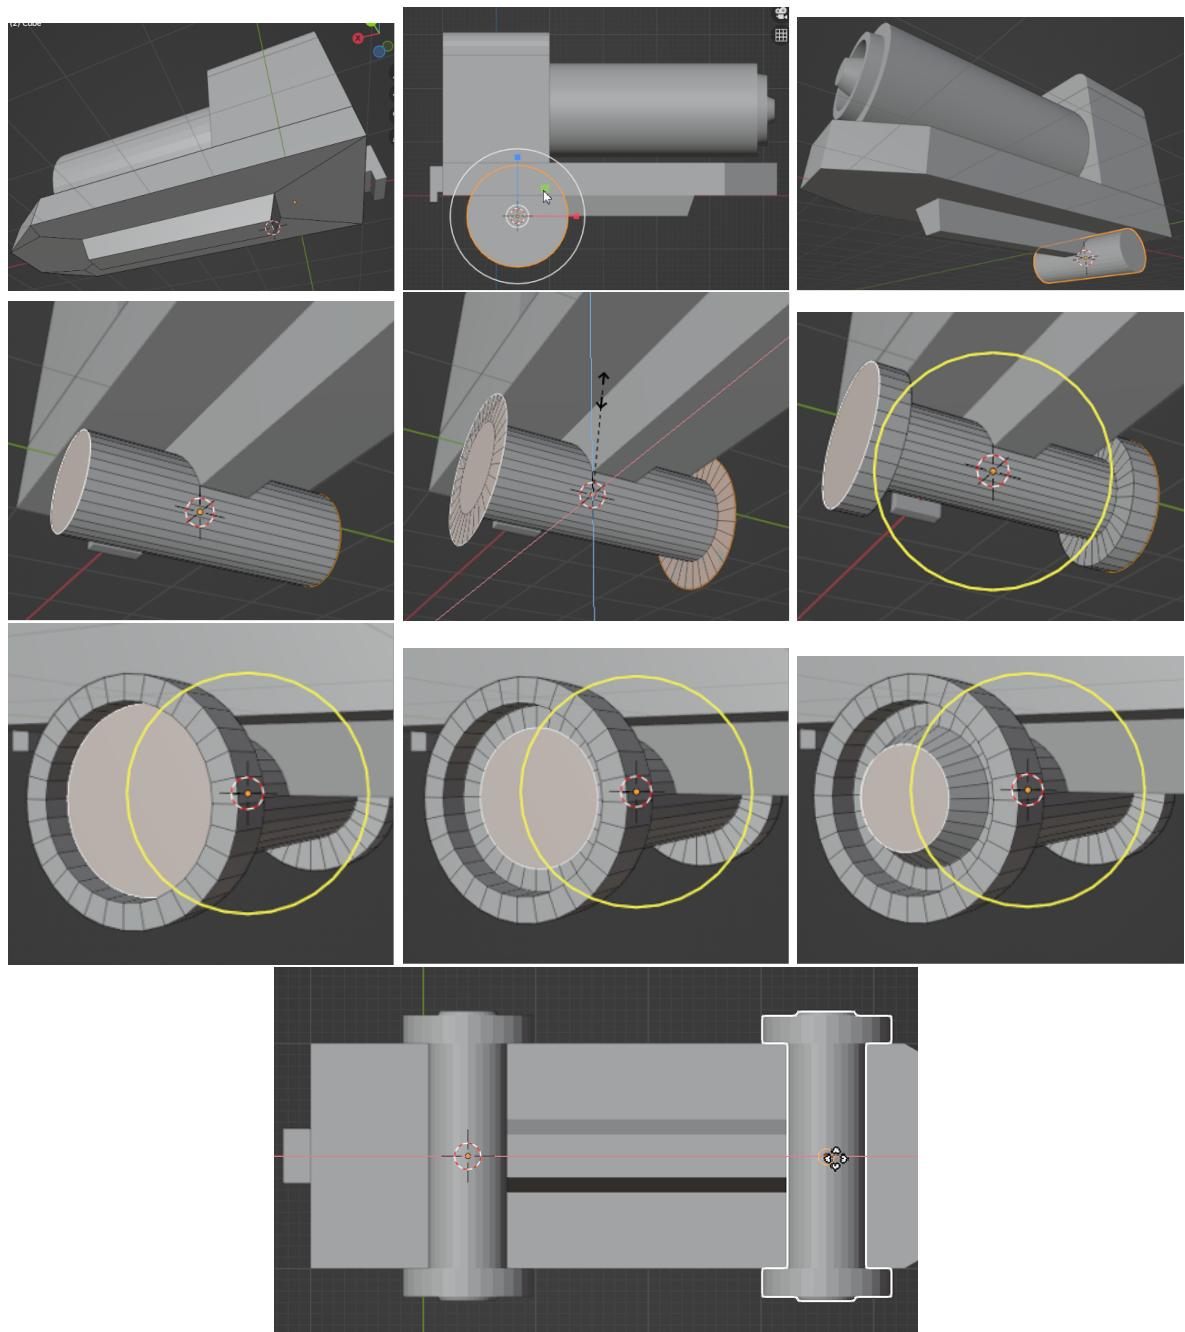

Figure 1.29: Modeling of the axles with wheels.
- (a) Select the platform and switch to *Edit Mode*. Select the lower edge of the train platform and bring up the 3D Cursor there (use *Mesh/Snap/Cursor to Selected*) (see Fig.1.29, first row, left).
- (b) In *Object Mode* insert the cylinder, which will be an axle of the wheels. Rotate and scale cylinder (see Fig.1.29, first row, center and right). Hold down the SHIFT key to scale the object precisely.
- (c) Select the cylinder and switch to *Edit Mode*. Select both bases of the cylinder and create a new edge by pressing [E] (*Extrude*), then [0] and [Enter] (to create a new edge without adding geometry). Scale up the polygon. Click and drag inside the yellow handle to activate the tool, and then set *Thickness* to 0 and adjust the *Depth* (see Fig.1.29, second row).
- (d) Model the wheels using *Inset* and *Inset+CTRL*, or after activating the *Inset tool*, enter the parameters (Thickness and Depth) (see Fig.1.29, third row).
- (e) In *Object Mode*, copy the axle with two wheels and paste it in the location in the front of the loco (see Fig.1.29, bottom row).